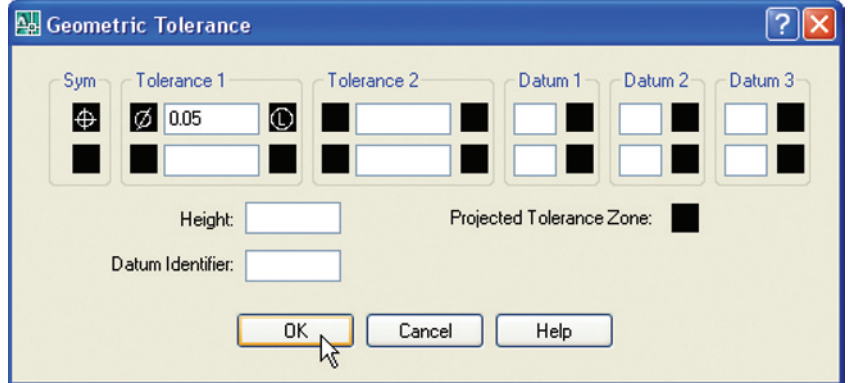
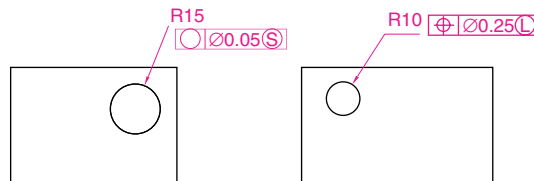

Fig. 6.29 The completed **Geometric Tolerance** dialog
Fig. 6.30 Example – **Geometric tolerances**
Example – Geometric tolerances (Fig. 6.30)
6. *Enter 0.05* in the **Tolerance 1** field (Fig. 6.29), followed by a *click* on the dialog's **OK** button. The geometrical tolerance appears. Move it to a position near the **R10** dimension in the drawing (Fig. 6.30).
7. Now add a geometrical tolerance to the **15** dimension as shown in Fig. 6.30.